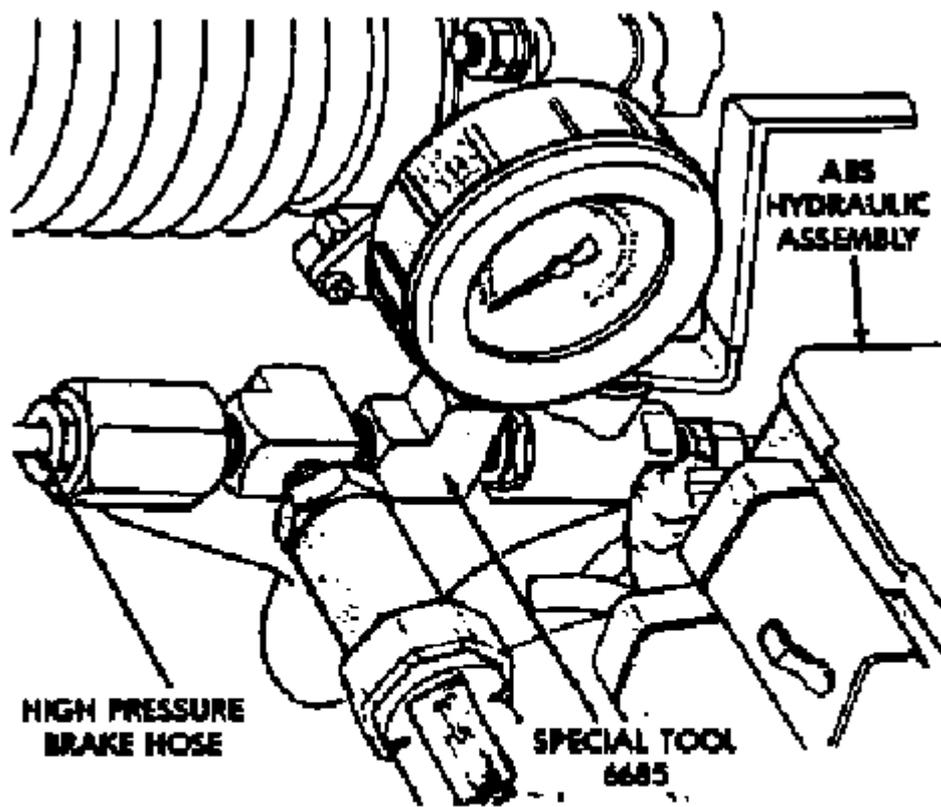

Figure 6
3. Verify the shut off valve on the internal leak test fixture is OPEN and install it in line with the high pressure hose (Figure 6). Screw the male end into the hydraulic unit, then the hose into the leak test fixture. The pressure gauge should be on the high pressure hose side of the shut off switch.